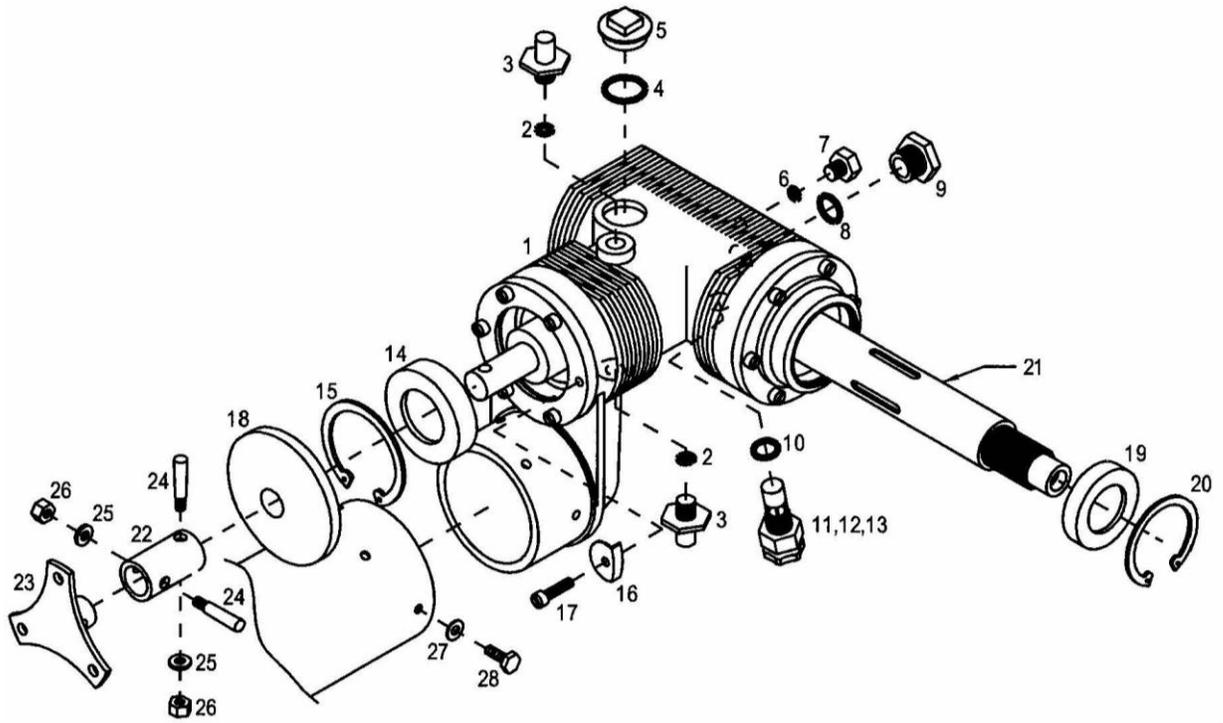
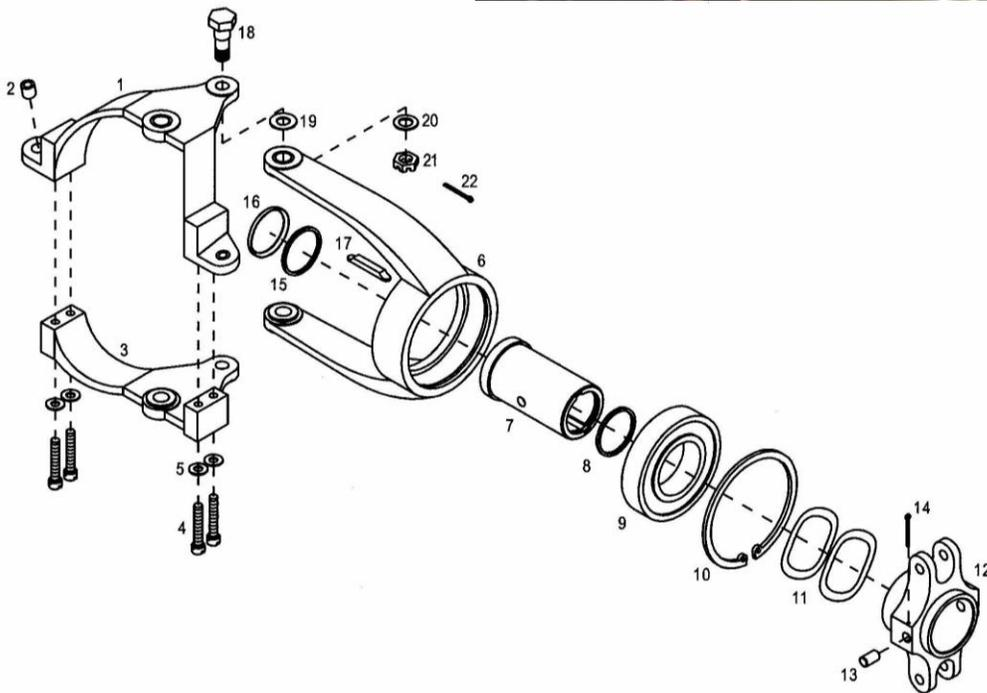

Figure 1
Figure 2
3. Remove the hardware securing the pitch change control slider bearing assembly to the pitch change bellcrank. (18 – 22, figure 2)
**NOTE: The washer (19) is a special spacer and must be installed between the pitch change assembly (6) and the bellcrank (1).**
5. Remove the pitch change bearing retention assembly (6, figure 2) by pulling it out the chrome slider, away from the tail rotor gear box.
**NOTE: Resistance will be felt when removing the pitch change bearing retention assembly as the seal and seal retainer (15 & 16, figure 2) must be forced out of the bearing (7).**
6. Remove the seal (15) and the seal retainer (16) from the chrome slider.
7. Remove the retaining ring (20, figure 1).
8. Using an awl or ice pick, remove the seal (19, figure 1) from the output
13. Install the retaining ring (20, figure 1).
14. Install the seal retainer (16) and the seal (15, figure 2) onto the slider shaft (21, figure 1).
15. Install the two keys (17, figure 2) into the key slots in the slider.
18. Install the spacers (19, Figure 2) between the pitch change bellcrank and the pitch change assembly.
19. Install the bolts, washers, and nuts (18,20,21, figure 2).
20. Torque nuts to 60 to 85 in/lbs and install cotter pins. (22)
21. Insert the seal (15) into the groove in the pitch change bearing (7, figure 2)
22. Use a small straight screwdriver or punch and a small hammer to tap the seal retainer (16) into the groove in the pitch change bearing (7 figure 2).